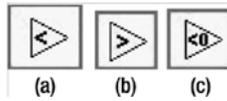

Figure 10-14. (a) The Less? Function, (b) the Greater? Function, and (c) the Less than 0? Function
- **Less?:** This function compares a value x to a value y and tests whether x is less than the y value (see Figure 10-14(a)).
- **Greater?:** This function compares a value x to a value y and tests whether x is greater than y (see Figure 10-14(b)).
- **Less than 0?:** This function compares a value x to zero (see Figure 10-14(c)).